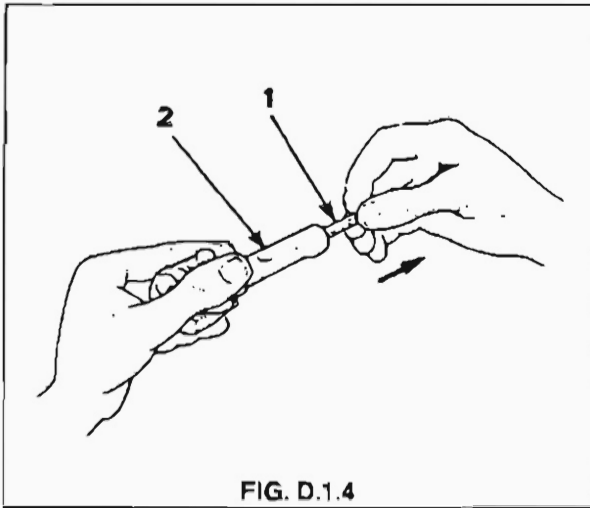

FIG. D.1.4
4. Remove the firing pin assembly from the bolt by pulling it out by hand. The rear end of the firing pin assembly will protrude from the rear of the bolt. It can be gripped with the fingertips and pulled out to the rear. See Fig. D.1.4.